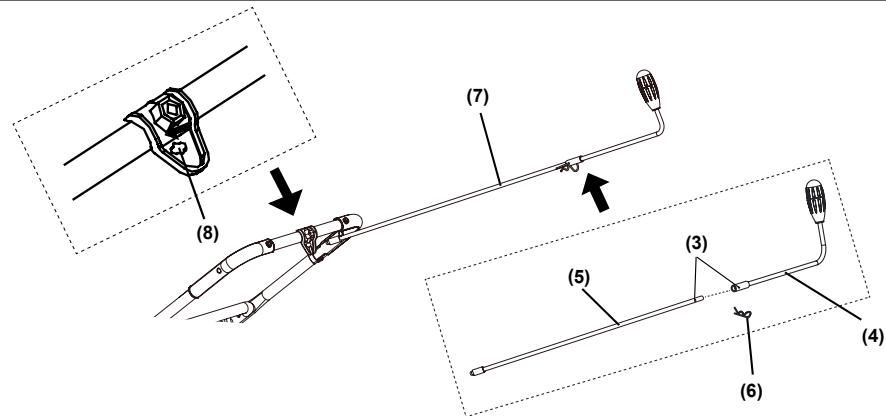

Fig. 4.2
- Align the holes (3) on the upper chute control rod (4) with the holes on the lower chute control rod (5). Insert the hitch pin (6). Insert the end of the chute control rod (7) through the keyed hole (8) in the bracket that is attached to the top of the middle handle. (Fig. 4.2)